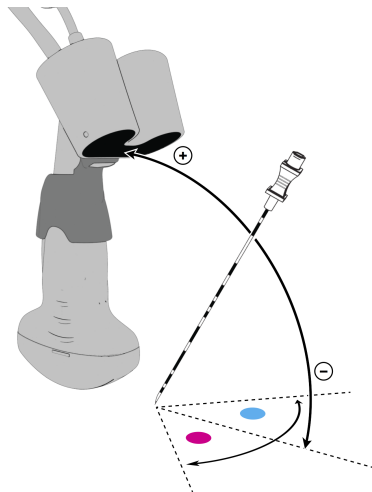

Figure 32: Alignment of transducer, instrument, and target
- (a) **In the Main View**, align the green guidance bars to intersect the in-plane green target symbol (by tilting the distal end of the instrument **in-plane up (+) or down (-)**, towards or away from the Optical Head) (Figure 32).